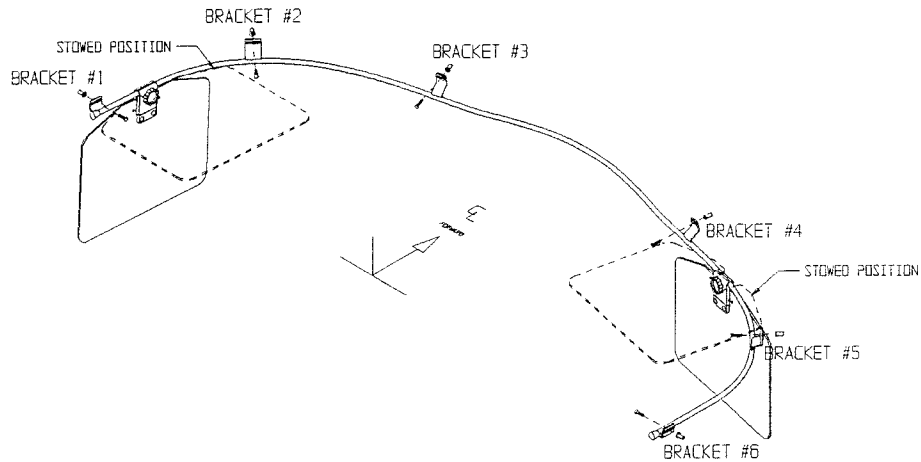

Figure 1 - Monorail System
- * Your Rosen Monorail Sunvisor System consists of one complete cockpit rail and two visor assemblies as shown in Figure 1.
- * The visor assembly will stow almost anywhere on sides where rotation will not hit the overhead panel, but suggested stowage is to the far left/right end or just forward of the middle side brackets on either side as shown in Figure 1.